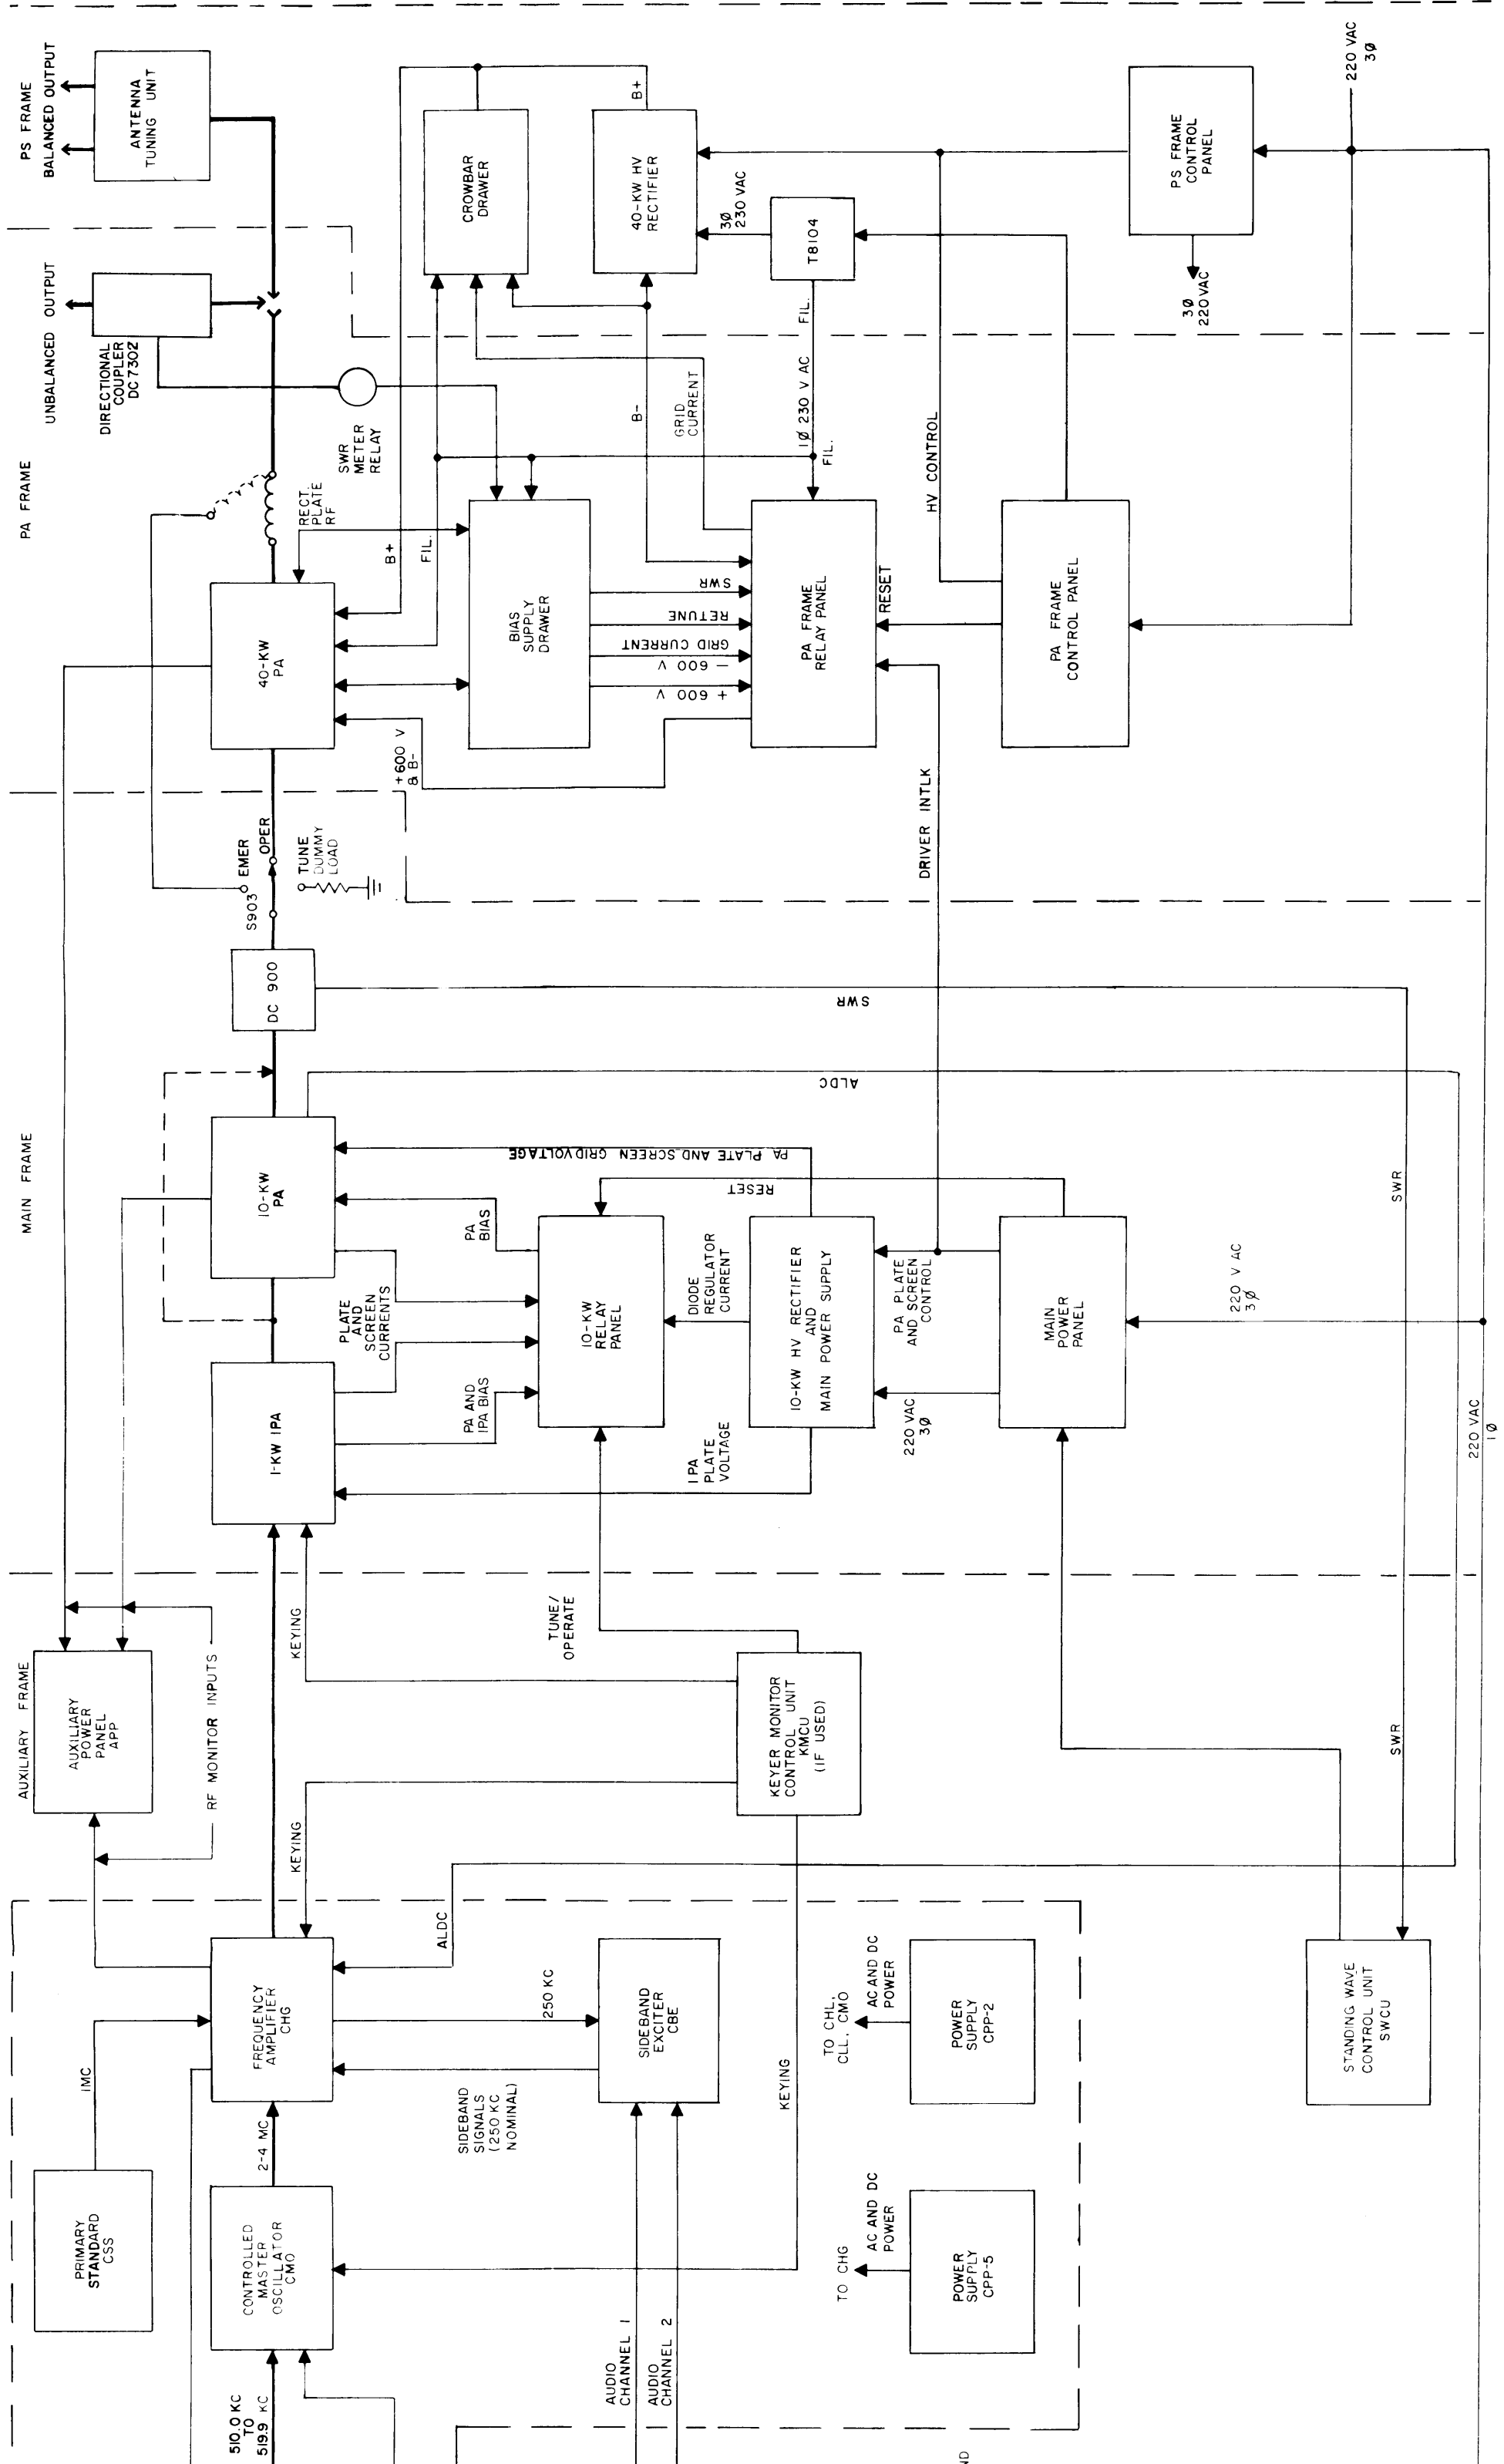

Figure 2. Synthesized GPT-40K Transmitter, Block Diagram 22
(1) ANTENNA TUNING UNIT AT-106. - The antenna tuning unit contains a balancing circuit for balanced output operation. A BAND MCS switch and BALANCE control on the front panel are used during balanced operation. The front panel also contains five meters that monitor circuit parameters within the 40-kw PA, the crowbar filament voltage, and VSWR (during unbalanced output operation). A manually set pointer and adjustment knob on the SWR meter permits the operator to preset the level of VSWR at which the SWR protective circuits operate.
(2) CROWBAR DRAWER AX-212. - The crowbar drawer, mounted below the antenna tuning unit, provides protection against excessive grid current surges in the 40-kw PA. This unit contains a thyatron that is visible through a window on the front panel. A switch, lamp, and two fuses are also mounted on the front panel.
(3) 40-KW HIGH VOLTAGE RECTIFIER. - The 40-kw high voltage rectifier, slide mounted below the crowbar drawer, is the rectifier portion of the plate supply for the 40-kw PA tube. Either a solid-state unit (Solid State Power Supply, Model HVRB-2), or a gaseous-tube unit (12-kv High Voltage Rectifier AP-105) may be supplied. In either case input and output connections are made via button contacts on the rear of the drawer.
(4) PS CONTROL PANEL AX-213. - The PS control panel, mounted below the 40-kw high voltage rectifier, contains controls for adjusting filament voltages in several of the drawers and turning on filament and blower motor power. The front panel also contains an SWR meter calibration control and switch.
5. BLOCK DIAGRAM ANALYSIS. (See figure 2.)